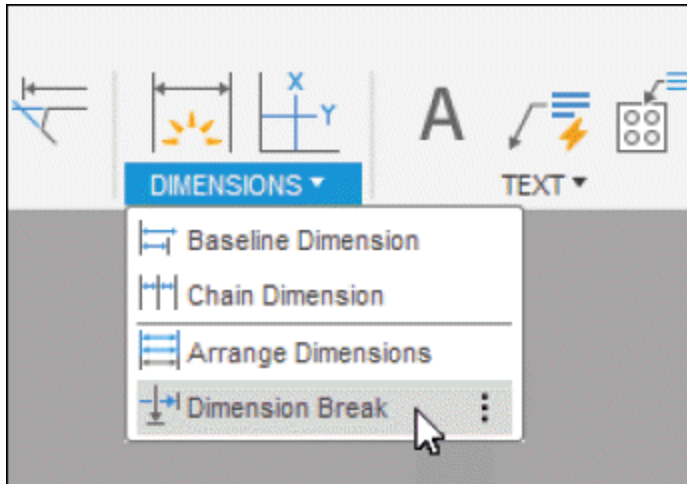
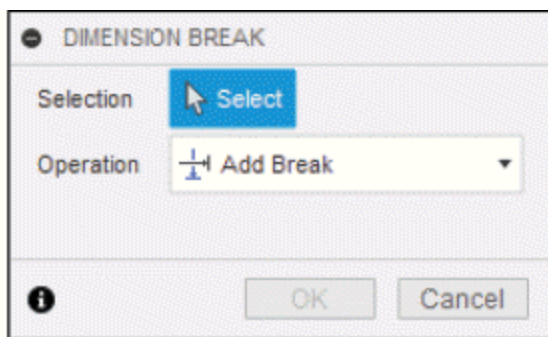

Figure-76. Dimension Break tool
Figure-77. DIMENSION BREAK dialog box
- Click on the **Dimension Break** tool from the **DIMENSIONS** panel of the **Toolbar**; refer to Figure-76. The **DIMENSION BREAK** dialog box will be displayed; refer to Figure-77, and you will be asked to select the dimension to add or remove break.